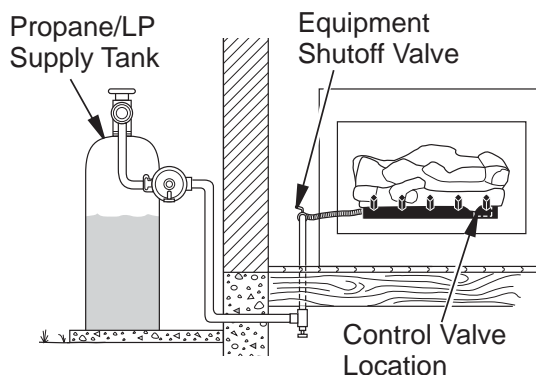
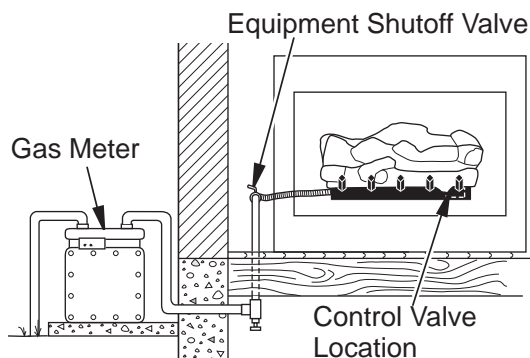

Figure 16 - Checking Gas Joints (Propane/LP Only)
Figure 17 - Checking Gas Joints (Natural Gas Only)
3. Check all joints from gas meter to equipment shutoff valve for natural gas or propane/LP supply to equipment shutoff valve for propane/LP (see **Figures 16 or 17 on Pages 15 and 16**). Apply noncorrosive leak detection fluid to all joints. Bubbles forming show a leak.
4. Check all joints from gas meter to equipment shutoff valve for natural gas or propane/LP supply to equipment shutoff valve for propane/LP (see Figure 16, Page 15 or Figure 17). Apply noncorrosive leak detection fluid to all joints. Bubbles forming show a leak.